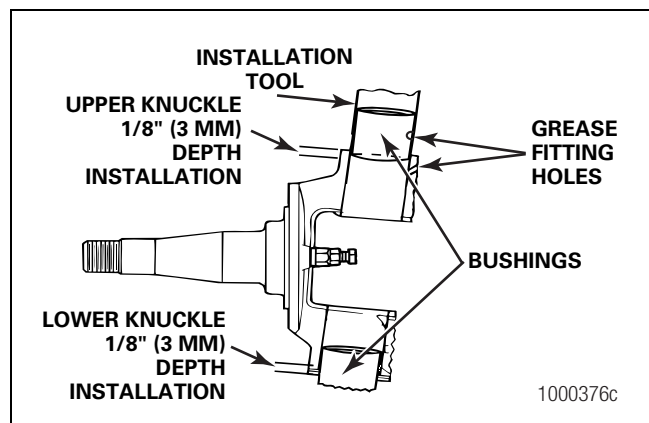

Figure 6.2
1. Place the new bushing into the upper knuckle bore. On MFS-7 and -8 front axles, the bushing hole must be aligned with the grease fitting hole in the knuckle bore. Figure 6.2.
2. Use the installation tool to start the bushing 1/8-inch (3 mm) STRAIGHT into the upper bore. Figure 6.2. Complete the installation as described in Table E.
4. Place the new bushing into the lower knuckle bore. On MFS-7 and -8 front axles, the bushing hole must be aligned with the grease fitting hole in the knuckle bore. Figure 6.2.
5. Use the installation tool to start the bushing 1/8-inch (3 mm) STRAIGHT into the lower bore. Figure 6.2. Complete the installation as described in Table E.
3. Place the new bushing into the upper knuckle bore. On MFS-7 and -8 front axles, the bushing hole must be aligned with the grease fitting hole in the knuckle bore. Figure 6.2.
4. Use the installation tool to start the bushing 1/8-inch (3 mm) STRAIGHT into the upper bore. Release the pressure. Figure 6.2. Complete the installation as described in Table E.
6. Place the new bushing into the lower knuckle bore. On MFS-7 and -8 front axles, the bushing hole must be aligned with the grease fitting hole in the knuckle bore. Figure 6.2.
7. Use the installation tool to start the bushing 1/8-inch (3 mm) STRAIGHT into the lower bore. Release the pressure. Figure 6.2. Complete the installation as described in Table E.